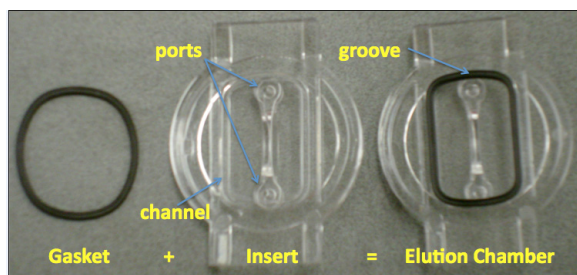

Figure 5: Assembly of an Elution Chamber ES1 Using the Elution System Gasket and the Elution Insert
2. While holding down the center portion of the Elution Insert, work the Elution System Gasket into one side of the rounded part of the channel (Figure 5).
3. Fit the Elution System Gasket into the remaining rounded part of the channel while still holding down the center portion of the Elution Insert (Figure 5).
4. Gently press the Elution System Gasket down into the channel to ensure proper, uniform Elution Chamber assembly (Figure 5).